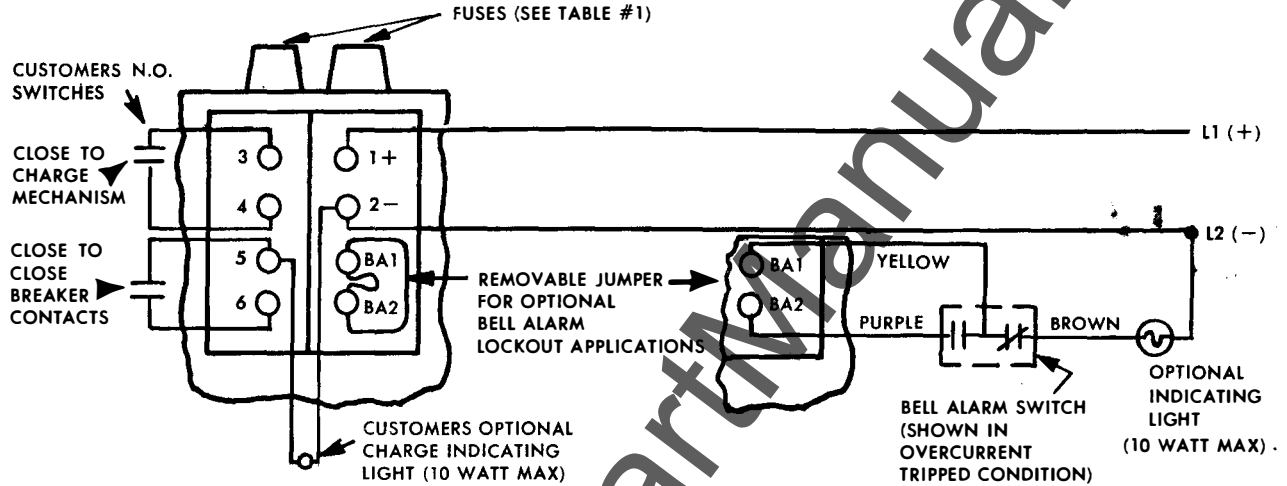

Figure 2
- F Drive Unit Terminal Board (See Figure 2)
- a) Mechanism may be electrically charged by connecting Terminal 3 to Terminal 4 (Figure 2).
- a) Breaker contacts may be remotely closed by connecting Terminal 5 to Terminal 6 (Figure 2).
a) For Bell Alarm Lockout - Interconnect bell alarm switch to motor operator terminal board as shown in Figure 2.